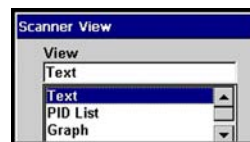

Figure 5-59 Sample Scanner View menu
2. Press **Y/✓** to display a dropdown list (Figure 5-59).